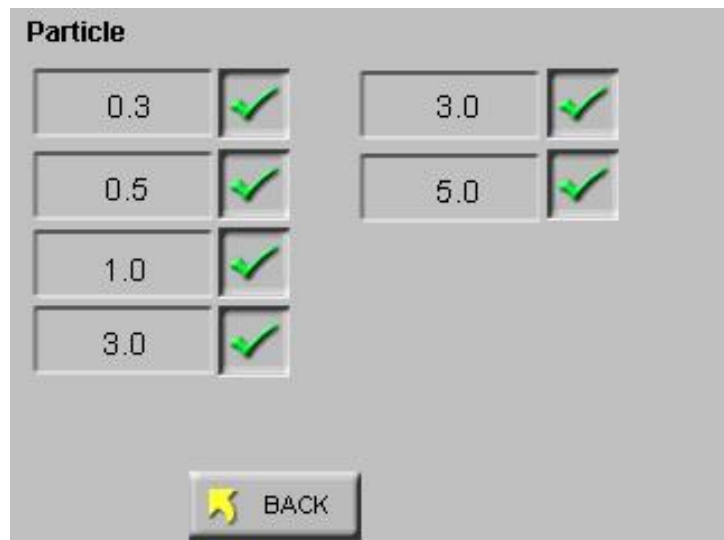

Figure 6-89 Reports Particle Screen
- Select the PARTICLE button to enable or disable particle channels as shown in Fig. 6-89.